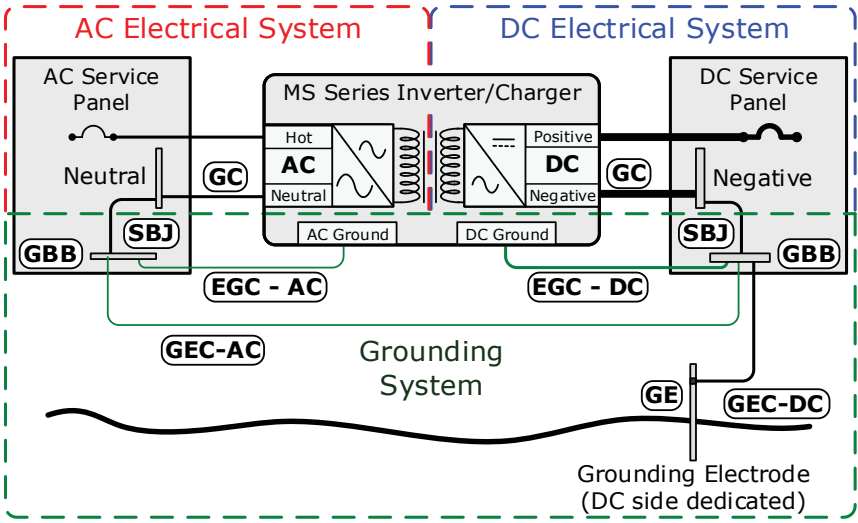

Figure 2-20, Single Connection to DC Ground Rod (Method 3)
**Method 3 (Figure 2-20):** The AC grounding electrode conductor (GEC-AC) is bonded to the DC ground point and the DC grounding electrode conductor (GEC-DC) is the *only connection* to the grounding electrode, which must be a rod, pipe, or plate electrode.